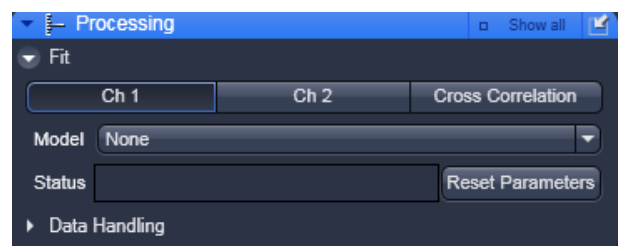

Fig. 51 Fit panel
- Click on the **Fit** tab to open the **Fit** control panel (Fig. 51). Click the tab again to close the panel.